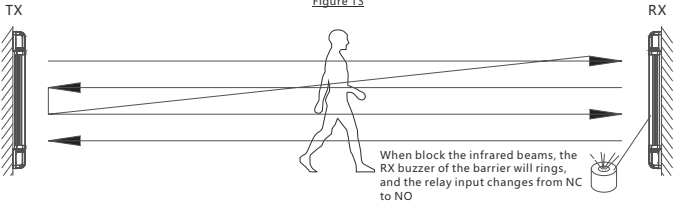

Figure 14
- 3. Check whether the function of the barrier is normal, when block the infrared beams, if the RX buzzer of the barrier rings, and the calibration indicator if is on, and the relay input if changes from NC to NO (Figure 14).